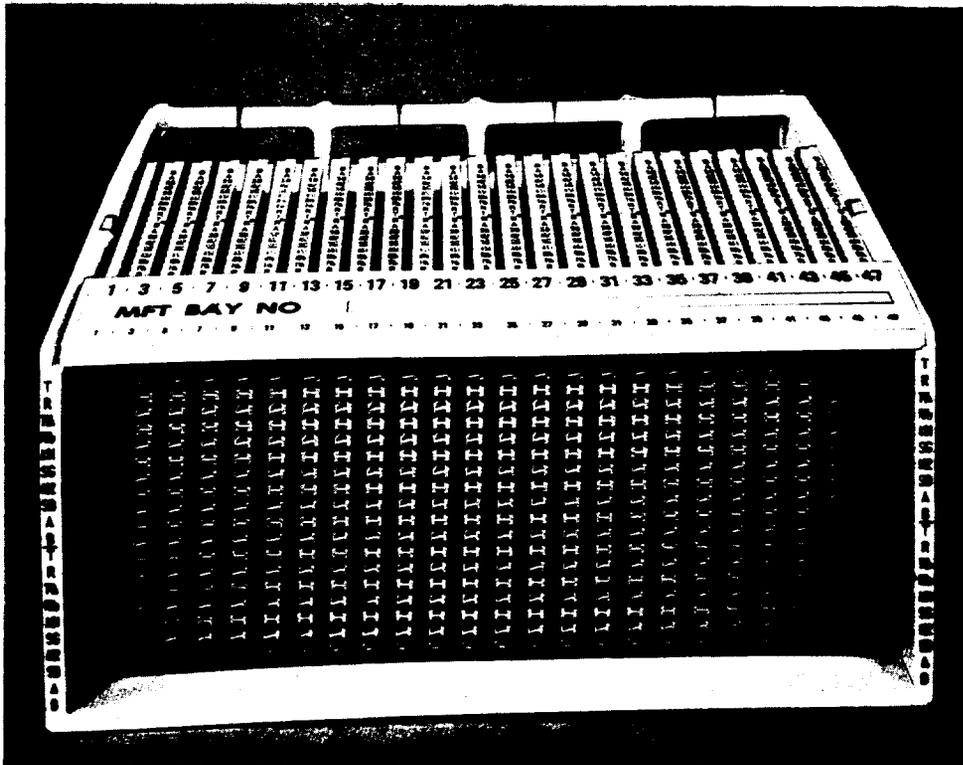

Figure 38—93-Type Connecting Block
8.23 The 93-type connecting block (Figure 38) was designed for use with facility terminal equipment such as MFT (Metallic Facility Terminal), DFT (Digital Facility Terminal), and AFT (Analog Facility Terminal) on low profile or tall conventional distributing frames. The blocks are rated DA (Discontinued Availability).